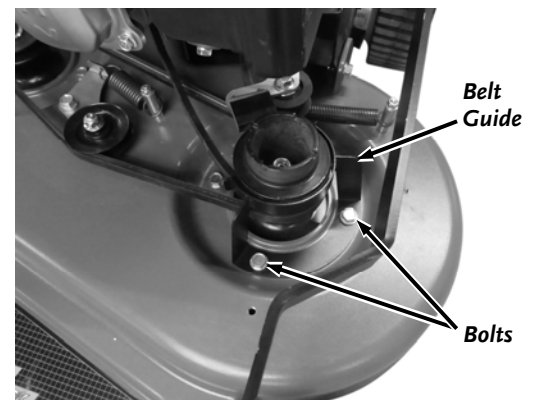

Figure 32
3. Remove the two Bolts securing the Blade Pulley Belt Guide and remove the Guide (**Figure 32**).